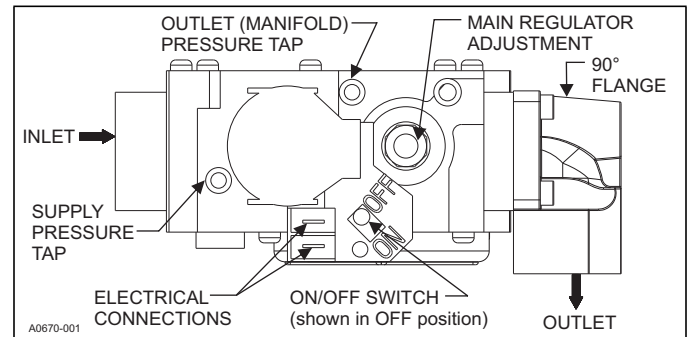

FIGURE 28: Gas Valve
1. Refer to Figure 28 for location of pressure regulator adjustment cap and adjustment screw on main gas valve.